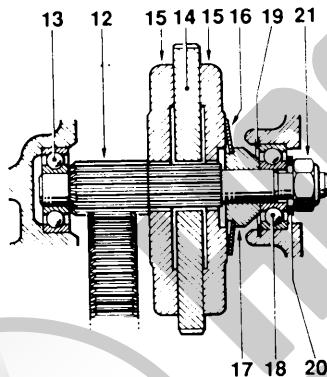

Figure 4-3
In the hoisting direction, the limiter gear (14, Figure 4-3), which is a slide-fit on the pinion shaft (12), rotates between two friction discs (15). Pressure is applied to the assembly by a spring washer (16). The amount of pressure is dependent on the adjustment nut (21).